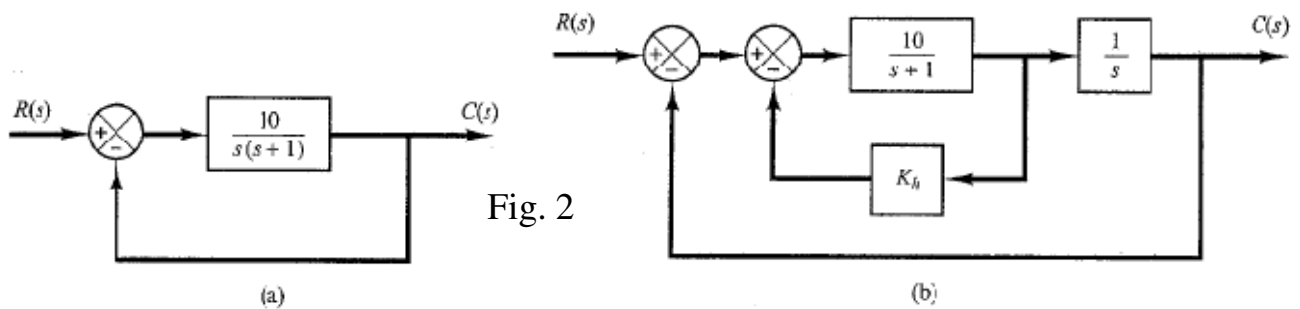

Fig. 2
- 5) Consider the system shown in Fig. 2(a). The damping ratio of this system is 0.158 and the undamped natural frequency is 3.16 rad/sec. To improve the relative stability, we employ tachometer feedback. Fig. 2(b) shows such a tachometer-feedback system. Determine the value of K_b , so that the damping ratio of the system is 0.5. Then find the rise time, maximum overshoot and settling time and compare them with those obtained from the original system.